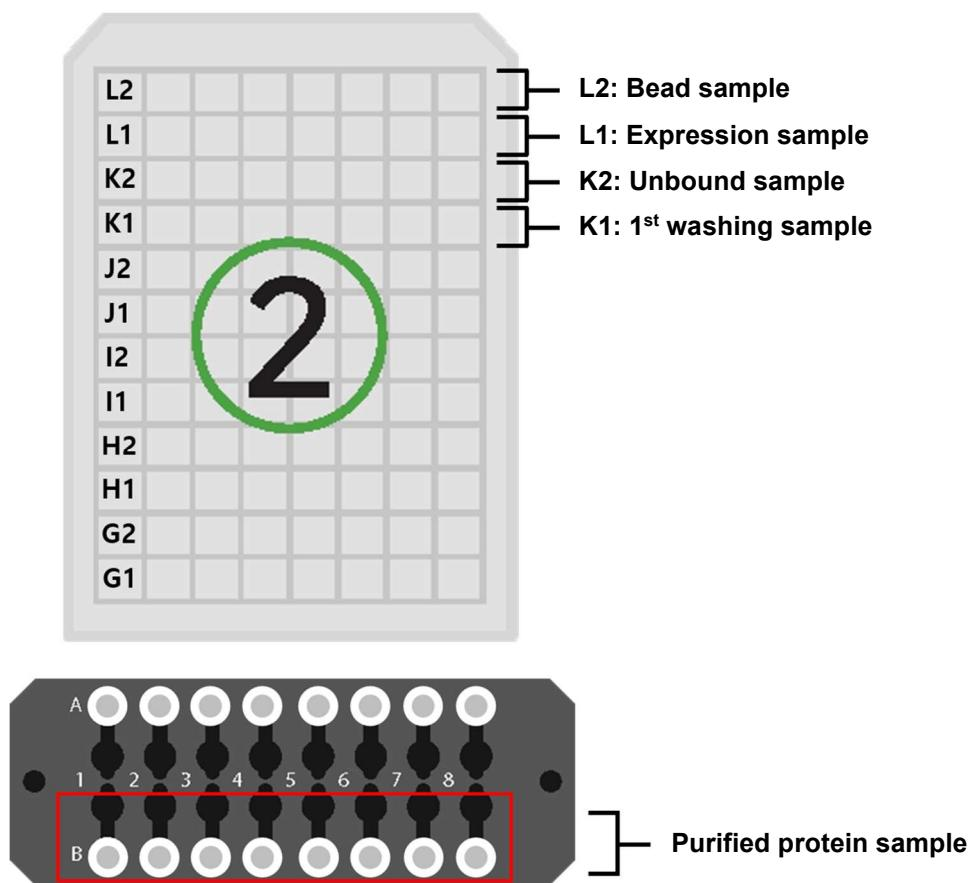

Figure 5. Samples for each row of Cartridge ②.
After protein synthesis with *ExiProgen™*, the final target proteins of about 220-230 µl is collected from Dialysis tube located at the **row B** of the Reaction block (Figure 5). Final protein samples may contain Ni-NTA magnetic beads, but this can be removed by centrifugation before use.
If necessary, reaction samples from protein expression and purification can be recovered from the rows L1, L2, K1, and K2 of Cartridges ② as shown in Figure 5.